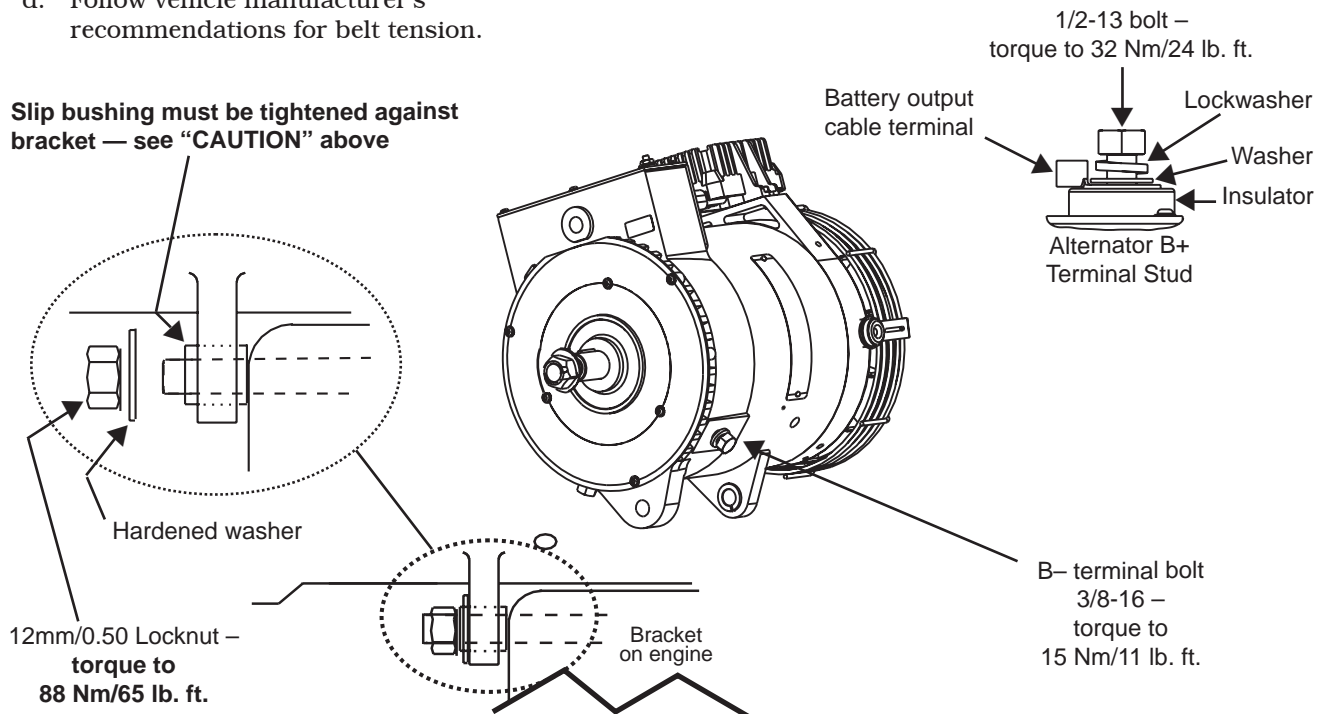

Figure 1 - Alternator Installation Details
1. Install alternator as shown in Figure 1: